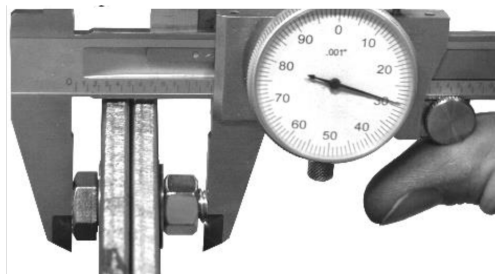

Figure 57: Stretch control is a very accurate method of determining bolt tension.
- A micrometer is the easiest way to measure bolt length (see Figure 57).